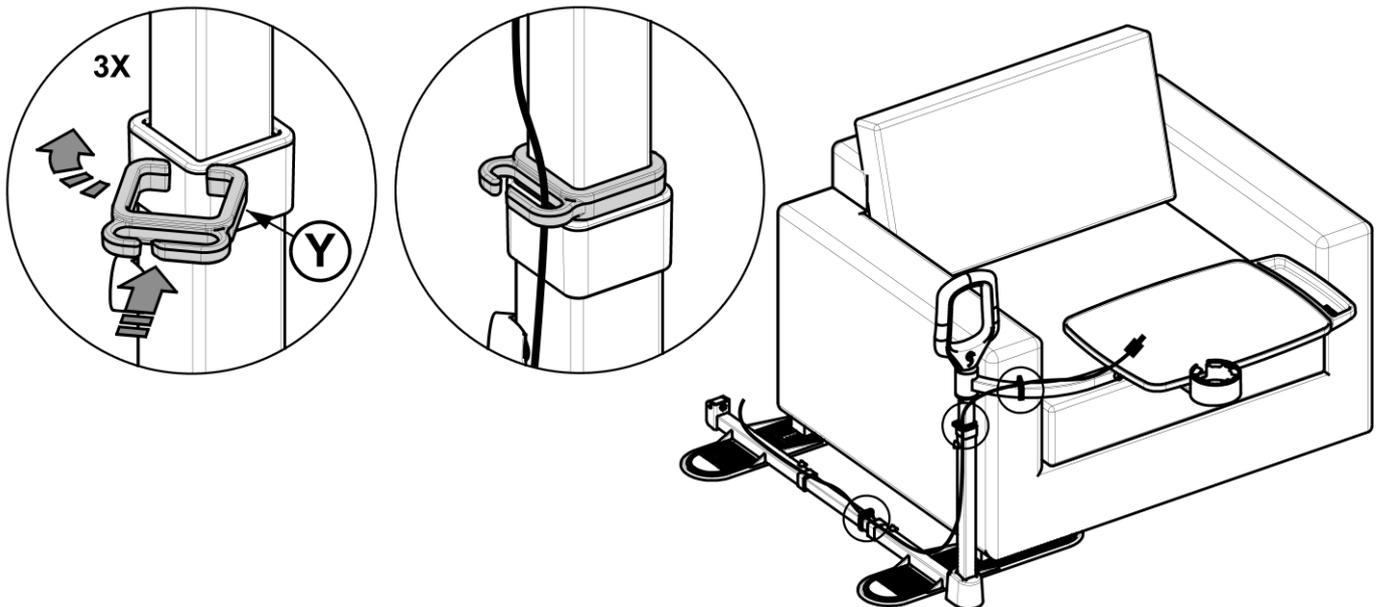

FIGURE 18
18. Optional POWER CORD CLIPS **Y** (3X) are provided. Firmly press POWER CORD CLIP onto corner of tube and rotate into any orientation. Suggested locations shown in *FIGURE 18*, however, clips can be installed wherever desired.